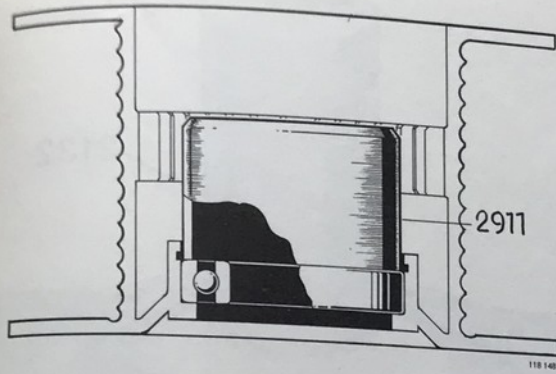

Fig. 92-85. Pressing in the bearing
25. Press the bearing into the cable drum with 2911, see Fig. 92-85. Fit the lock ring.